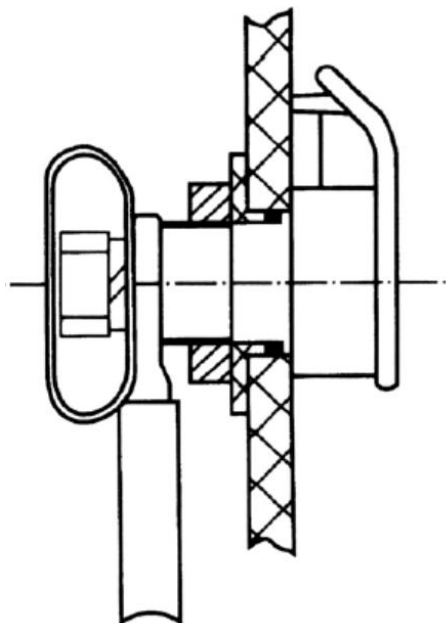
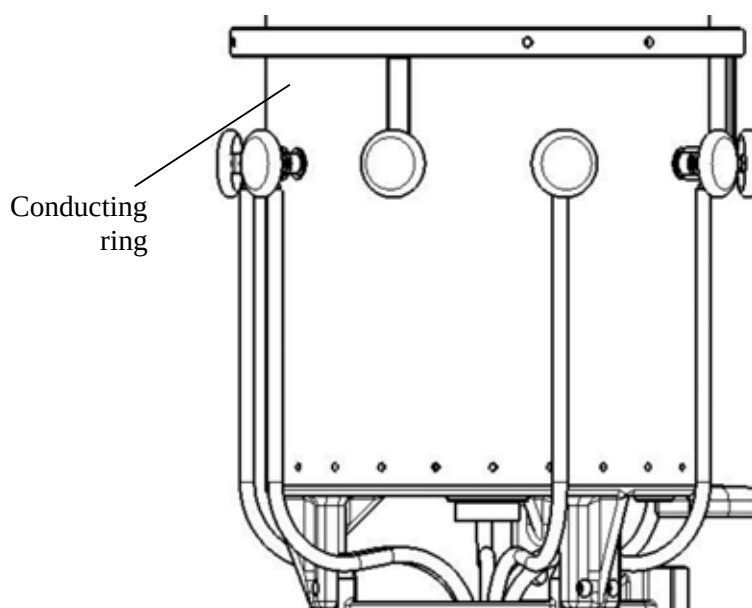

Figure 14 Contact
Figure 15 Conducting ring
- Two connecting wires must be connected to each phase of the diverter switch (six wires have been fixed to the selector before delivery). Tighten the 6 pieces of M10 hexagon bolt (8mm wrench), torque 28 to 34 N.m. (Figure 14 & Figure 15)
Align the wire directly with the contact on the oil compartment. Do not make the shielding cap between them (Figure 14).
- 1) III-500/600 & I-1200/1500 tap selector's lead wires (6 in total) must be connected to the diverter switch contact led-out terminal (with holes for M10, Figure 15).